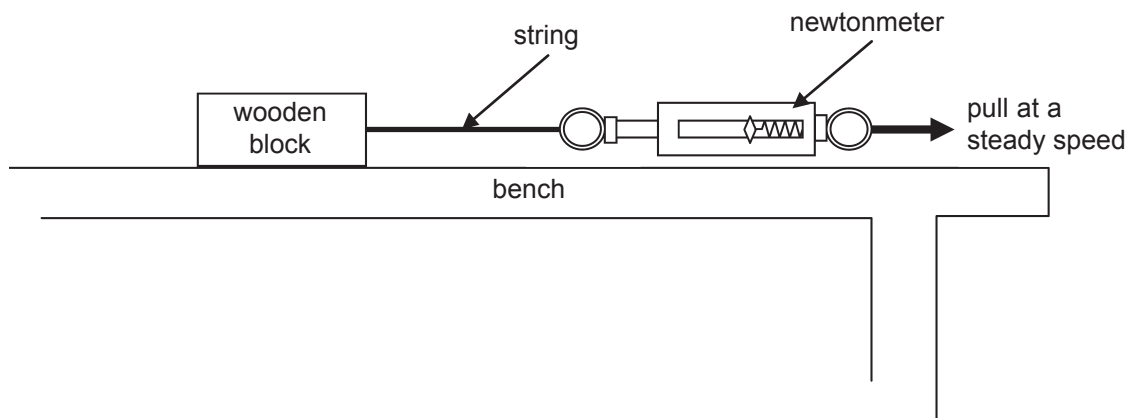

Fig. 4.1
- 4 A newtonmeter is attached to a wooden block using string, as shown in **Fig. 4.1**. The size of the frictional force between the wooden block and the bench is the value on the newtonmeter when the block is pulled so that it moves at a **steady speed**.